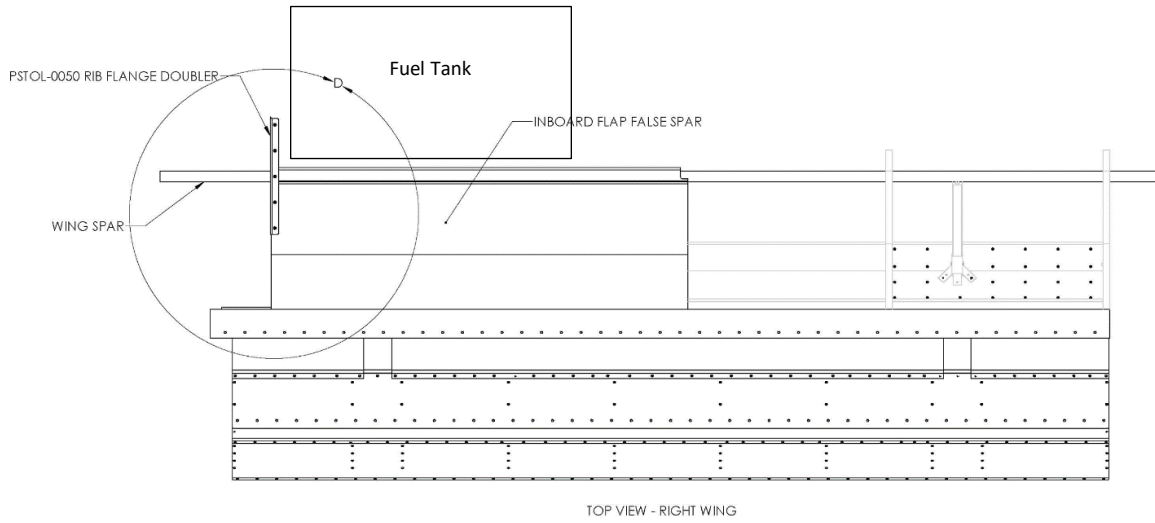
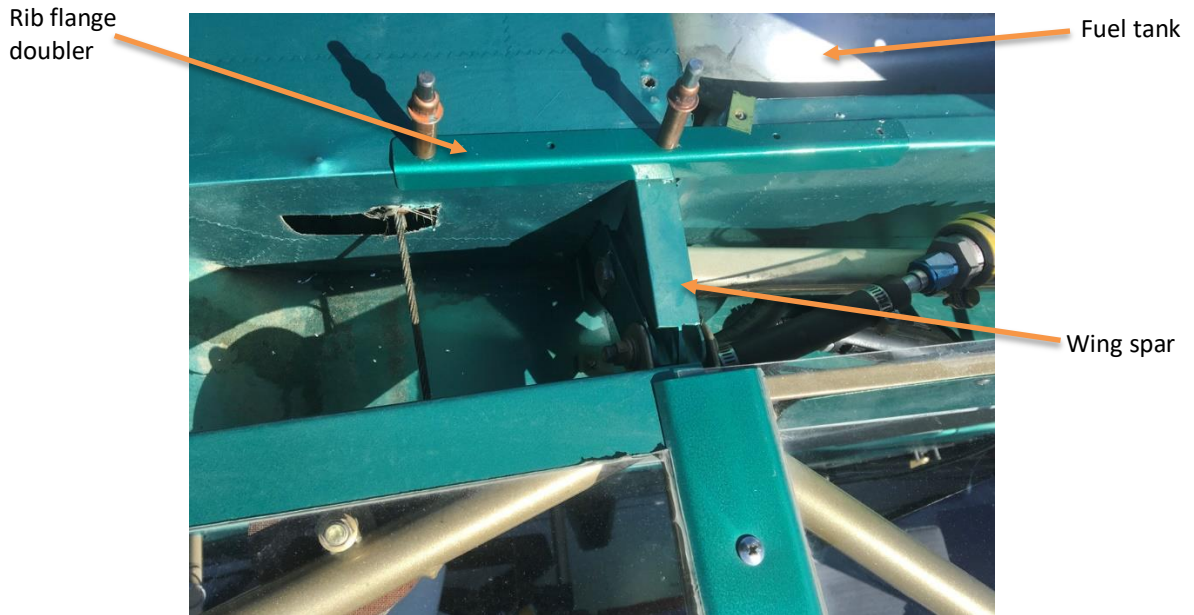

Figure 7: Rib Flange Doubler Location
Figure 9: Rib Flange Doubler Installation Photo
- Place the rib flange doubler in position along the top of the rib flange as shown in Figure 7 and Figure 9. Match drill the predrilled holes in the doubler through the rib flange. Use care to ensure the drill hole is not through the center web structure of the rib. Rivet hole should be through the flange surface where there is clearance behind for the rivet.
Note: If you have Atlee Dodge oversized 30 gallon fuel tanks, the rib portion where the rib flange doubler (PSTOL-0050) installs has been modified, and cannot be installed as shown in Figures 7, 8, and 9 for standard fuel tanks. Installation variation and compatibility in this case is at the discretion of the installing IA.